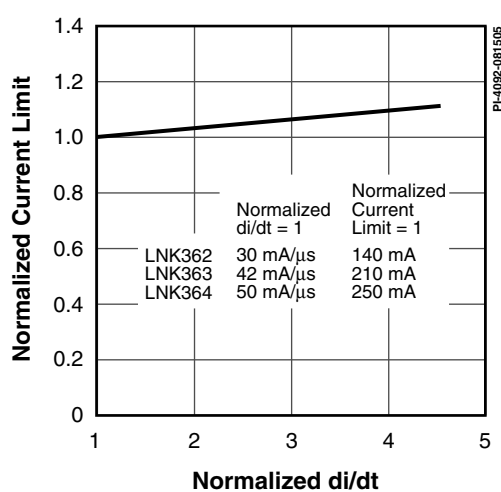

Figure 14. Current Limit vs. di/dt .
- E. For current limit at other di/dt values, refer to Figure 14.